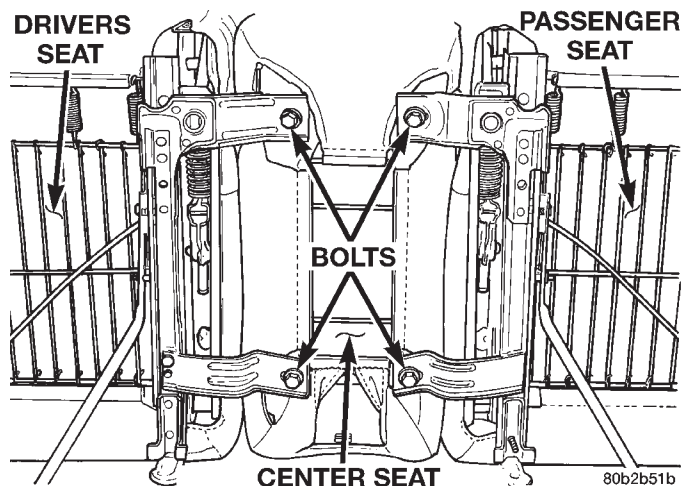

Fig. 4 Center Seat/Armrest
- (1) Remove bucket seats
- (2) Remove the bolts attaching the center seat to the bucket seat inboard seat tracks (Fig. 4).
- (3) Route the seat belt buckles through the elastic retaining straps.
- (4) Separate the center seat/armrest from the bucket seats.